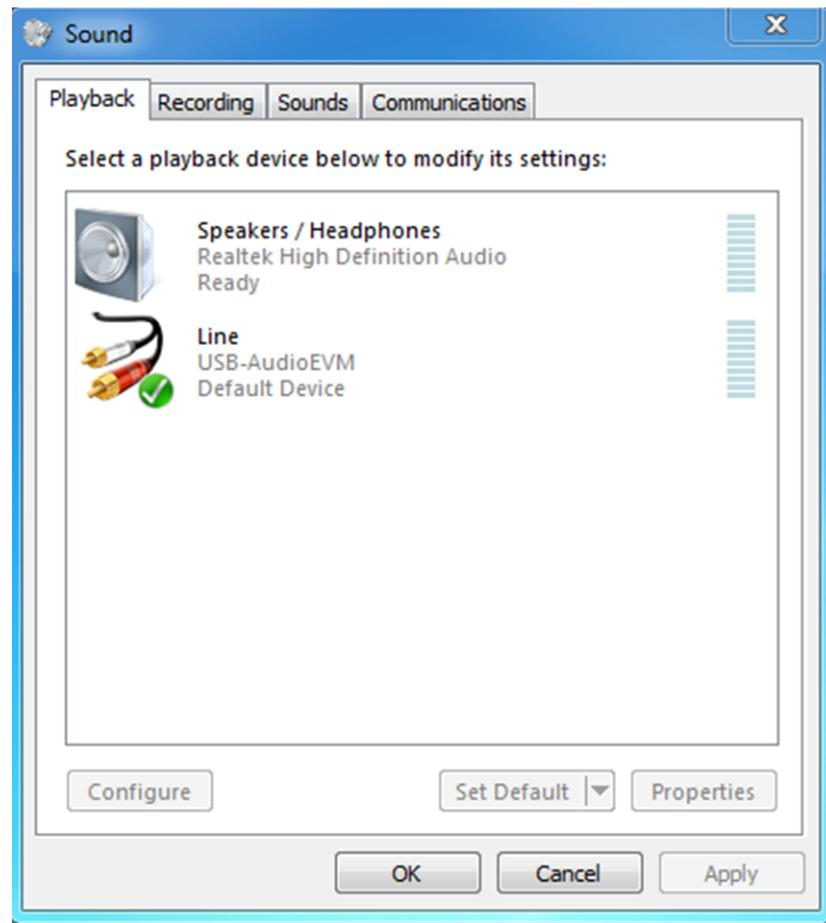

図 5. Playback Device Settings
- Verfiy that the computer has set the PurePath Motherboard as the default playback device by opening the sound dialog from the windows control panel (see 図 5)